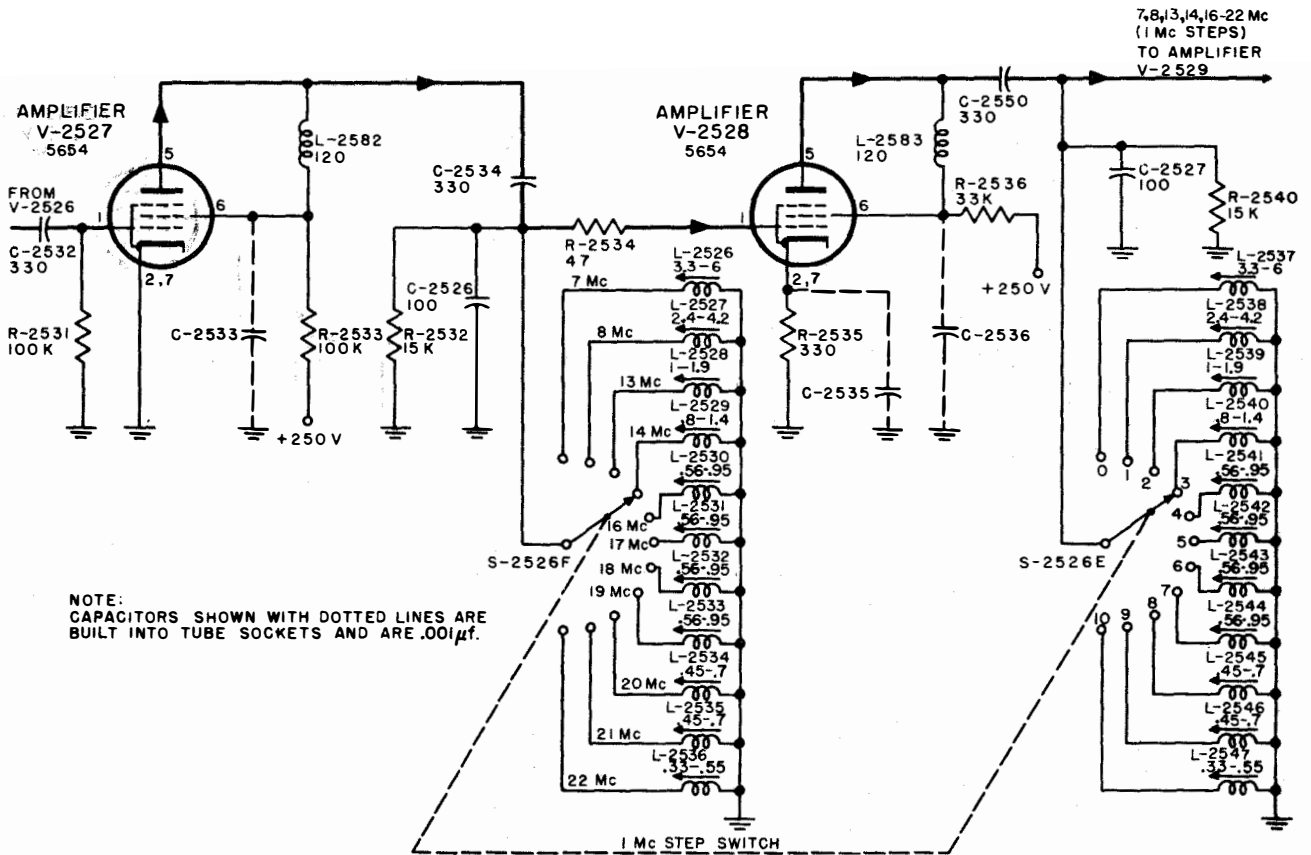
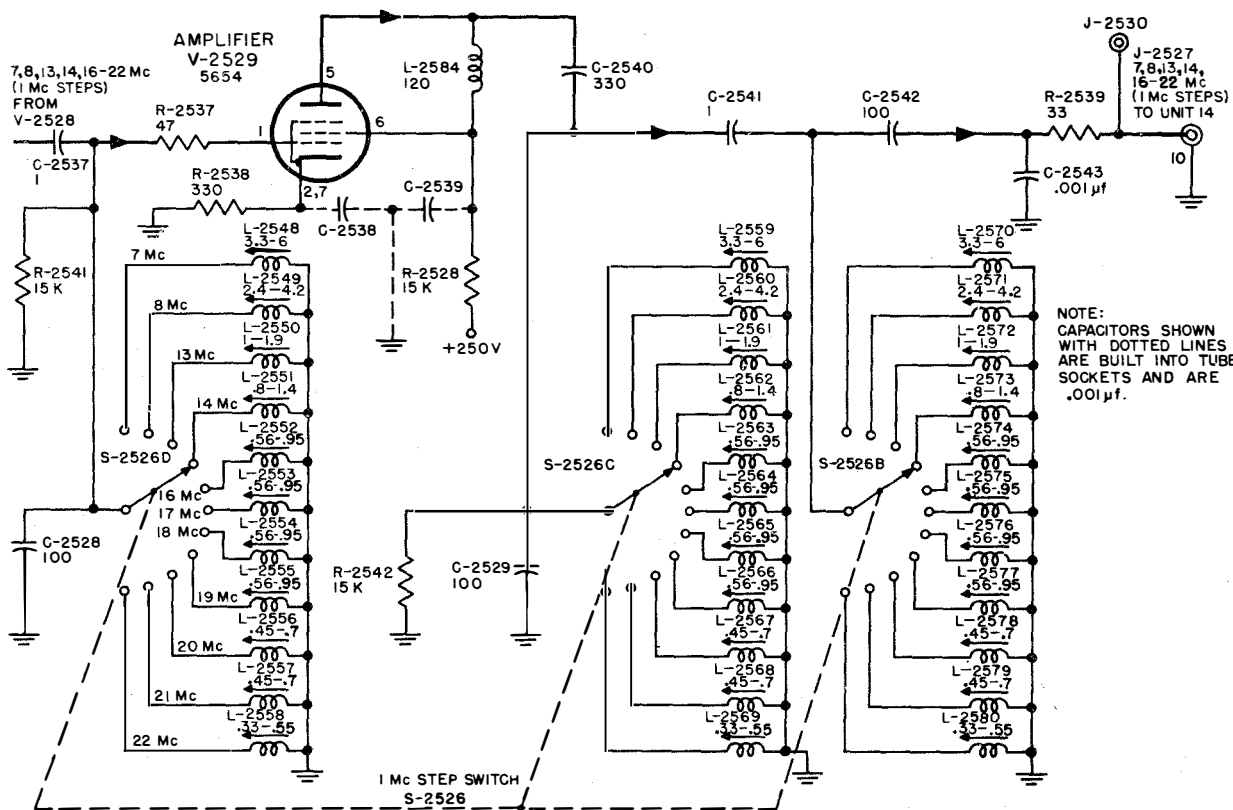

Figure 2-32. RFO Unit 10, Amplifiers V-2527 and V-2528, Simplified Schematic
Figure 2-33. RFO Unit 10, Amplifier V-2529, Simplified Schematic
(2) AMPLIFIERS V-2527, V-2528, AND V-2529. — Amplifier V-2527 is similar to the harmonic generator (figure 2-32). The harmonic generator output is coupled to the amplifier grid by C-2532. The amplifier distorts and amplifies the harmonic generator output. The amplifier output is very rich in harmonics and therefore very suitable for use in deriving the frequencies desired in the final output of unit 10. The grid circuit of V-2528 consists of a tuned filter comprising C-2526 and any one of the inductors, L-2526 to L-2536, inclusive, as chosen by section F of 1-mc step switch S-2526. This switch is controlled by the \textcircled{R} KNOB control on the mounting. Switch S-2526 may be set in any one of 11 positions, numbered from 0 to 10. In position 0, inductor L-2526 is selected. Its value is such that the plate filter circuit will be tuned to the seventh harmonic of 1 megacycle, and the plate circuit of V-2527 will attenuate all frequencies other than 7 megacycles. With S-2526 in position 1, all frequencies other than 8 megacycles will be attenuated (figure 2-32), etc. To prevent the next high-gain amplifier (V-2528) from oscillating, load resistor R-2532 is provided in the filter circuit and R-2534 is provided in series with the grid of amplifier
V-2528. The signal is coupled to V-2528 by C-2534. The output of V-2528 is coupled to V-2529 by C-2550. Amplifiers V-2528 and V-2529 are similar to amplifier V-2527. Amplifier V-2529 is provided with a double-tuned input filter circuit in which inductors L-2537 through L-2547 are selected by section E of S-2526 (figure 2-32) and inductors L-2548 through L-2558 are selected by section D of S-2526 (figure 2-33). Amplifier V-2529 has, in addition, a double-tuned output filter circuit. The frequency of the input filter is controlled by sections D and E of S-2526 and the frequency of the output filter is controlled by sections C and B of S-2526. The final output of unit 10 is reduced in amplitude by the divider C-2542 and C-2543, and is applied to unit 11A, 11B, or 11C, which is selected by the bandswitch, S-2996 in unit 14, through coupling resistor R-2539 and receptacle J-2527. Test point J-2530 is provided for testing output 10 (approximately 0.4 volt).